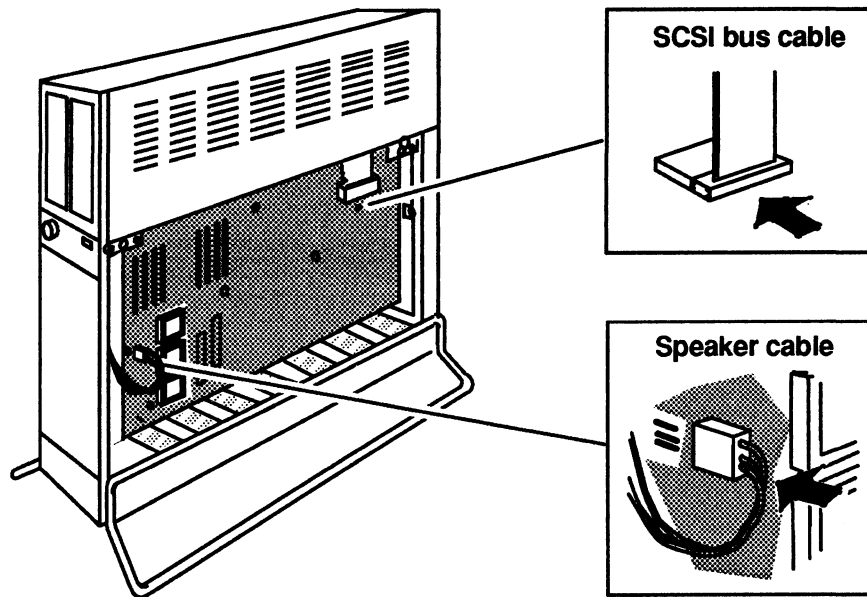

Figure 5-13 Plugging the Speaker and the SCSI Bus Cables into the System Board
9. Plug the SCSI bus and the speaker cables into the system board as shown in Figure 5-13.